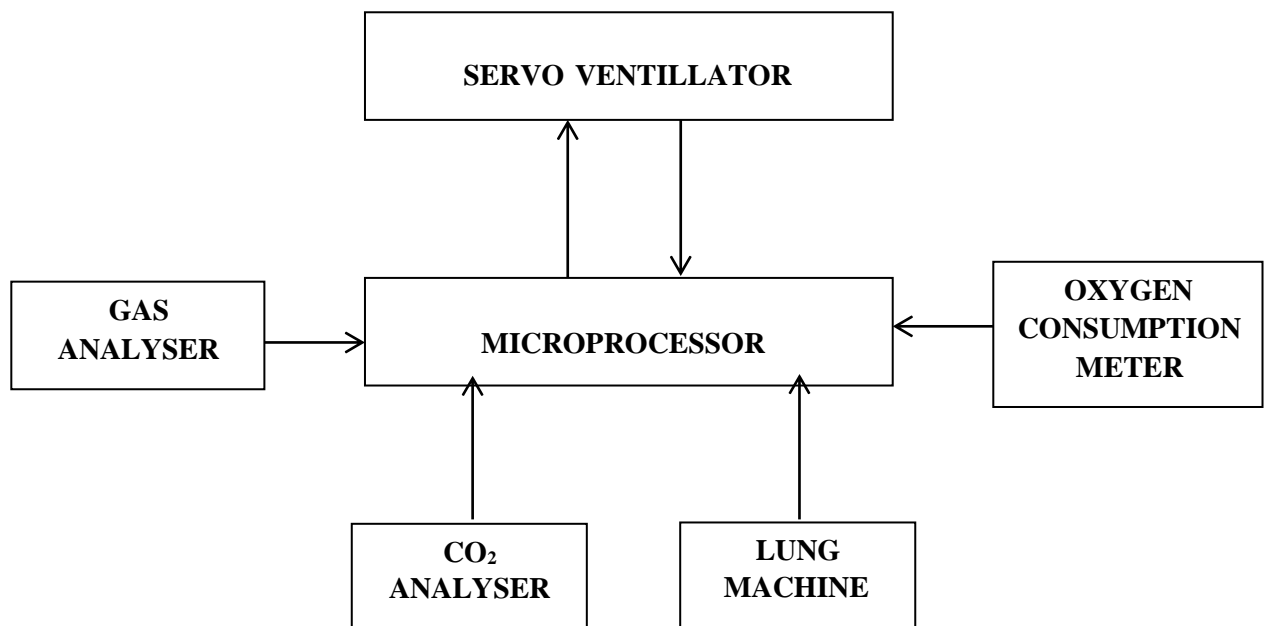

Figure 3: Microprocessor based ventilator
- Figure 3 shows the microprocessor based automatic feedback control of a mechanical ventilator.